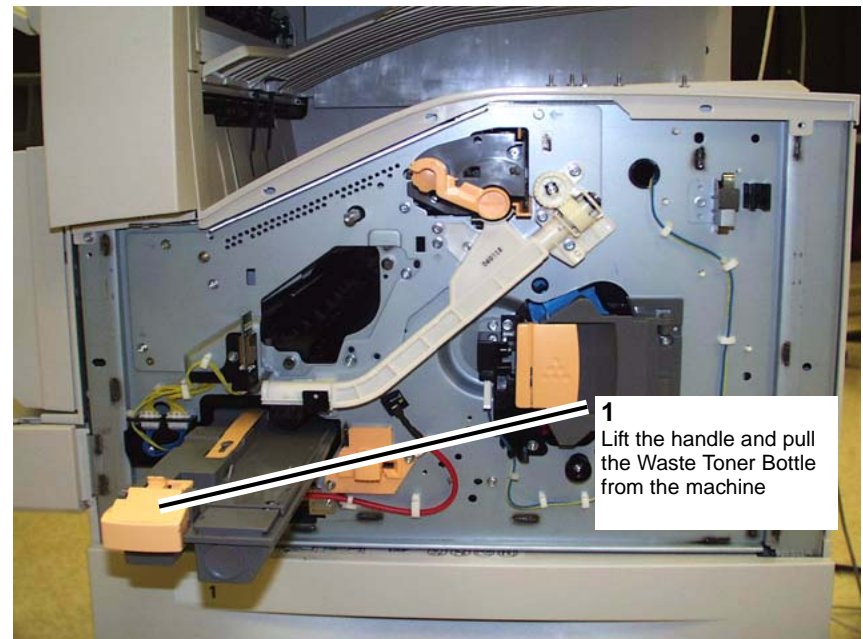

Figure 1 Removing the Waste Toner Bottle
5. Remove the Waste Toner Bottle, (Figure 1)